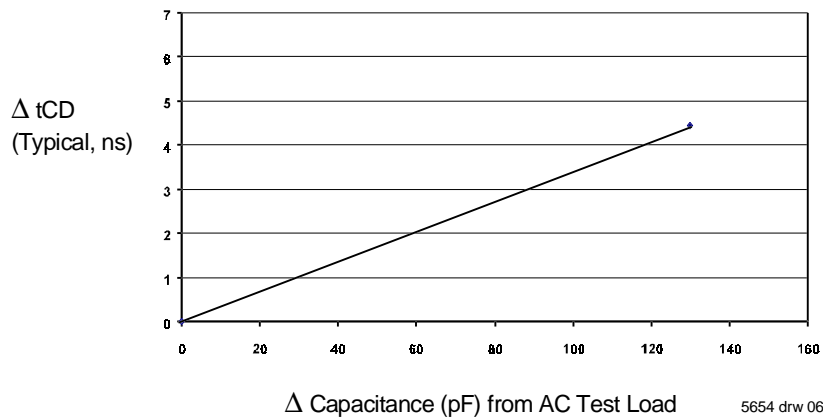

Figure 2. Typical Output Derating (Lumped Capacitive Load).
1. Transition is measured 0mV from Low or High-impedance voltage with the Output Test Load (Figure 2). This parameter is guaranteed by device characterization, but is not production tested.
1. Transition is measured 0mV from Low or High-impedance voltage with the Output Test Load (Figure 2).
3. Transition is measured 0mV from Low or High-impedance voltage with the Output Test Load (Figure 2).